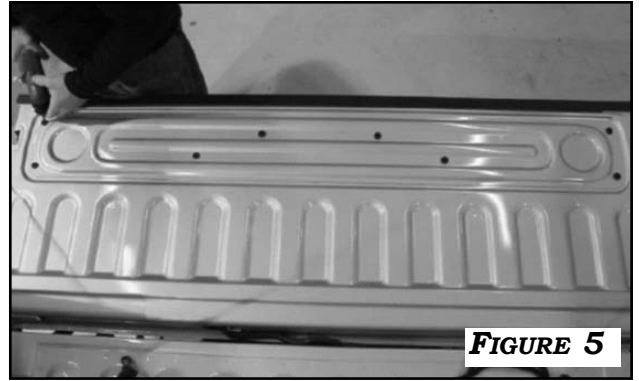

FIGURE 5
5. REMOVE 8 SCREWS TO RELEASE THE TAIL GATE PANEL TO ACCESS TAIL GATE HANDLE COMPONENTS. **FIGURE 5**